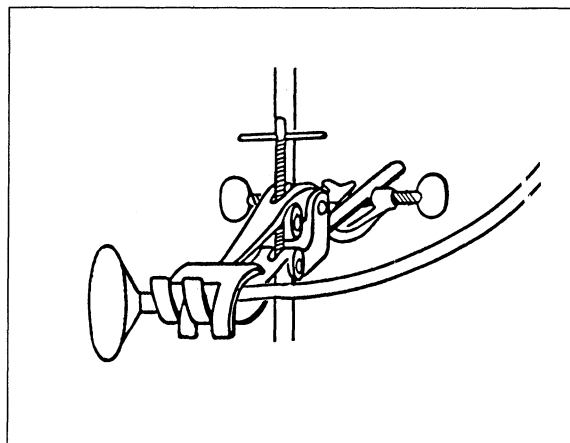

Fig. 2 Radiometric probe with riser tube and clamped sheet of paper
4. Remove the riser tube from the beaker, hold it horizontally and carefully insert the end with the drop of water in it into the hole in the stopper of the black radiometric probe. The other end should be unsealed, so that after it has been inserted, the drop is positioned about 5 cm in front of the rubber stopper (fig. 2).
5. Wrap the paper strip round the riser tube and clamp it in position as shown in fig. 2, using the universal clamp. The drop of water should be visible, so you can use the universal marker to mark the zero point on the paper strip.